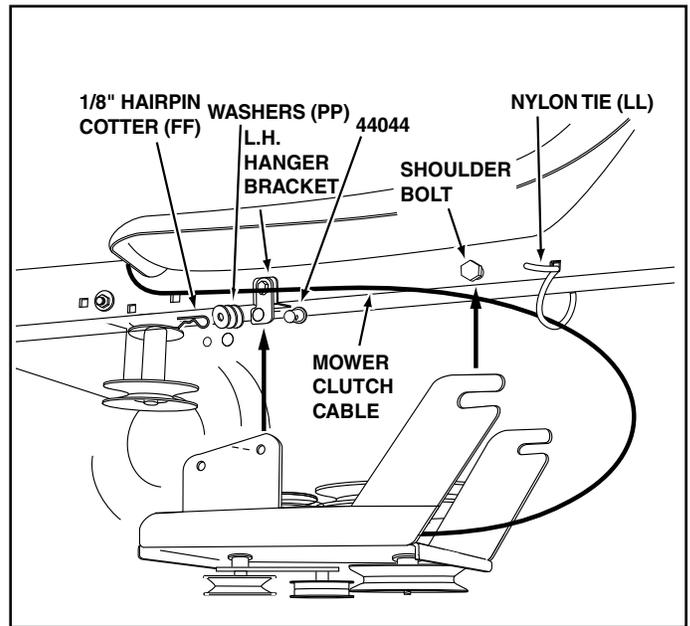

FIGURE 12 VIEWED FROM LEFT SIDE
STEP 12: (SEE FIGURE 12)
- Hook the rear of the clutch/idler assembly onto the two shoulder bolts assembled to the tractor frame. Lift the front of the assembly and attach it to the R.H. and L.H. hanger brackets using two clevis pins (OO), six washers (PP), and two 1/8" hairpin cotters (FF).
- Loosely attach the mower clutch cable to the left side of the tractor frame with a nylon tie (LL). **Do not** pull the nylon tie completely tight. The cable may need to be removed from the nylon tie when using the mower deck.